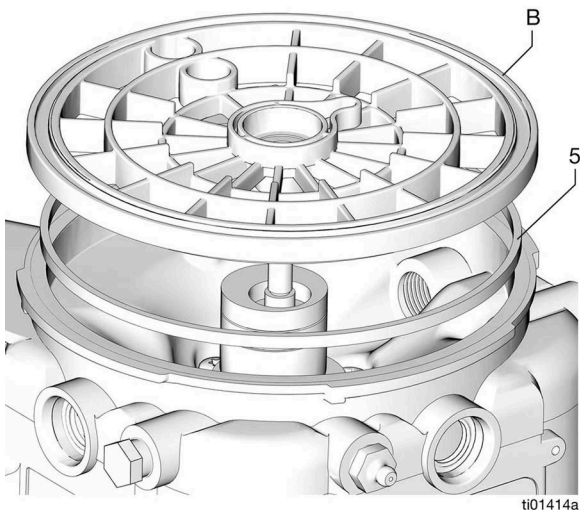

FIG. 6
3. Remove ricer plate (B) from G3 base.
4. Remove o-ring (5) located under ricer plate (FIG. 6).